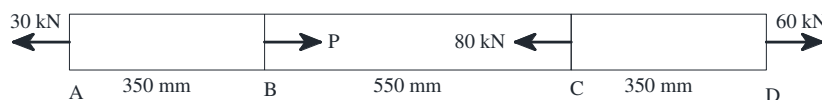

Figure-5
- (b) A brass rod ABCD having a c/s area of 500mm² is subjected to axial forces as shown in **Figure-5**. If modulus of elasticity for brass is 80kN/mm², find the change in the length of the bar. **04**
- (b) A brass rod ABCD having a c/s area of 500mm² is subjected to axial forces as shown in **Figure-5**. If modulus of elasticity for brass is 80kN/mm², find stress in each part of the bar. **04**